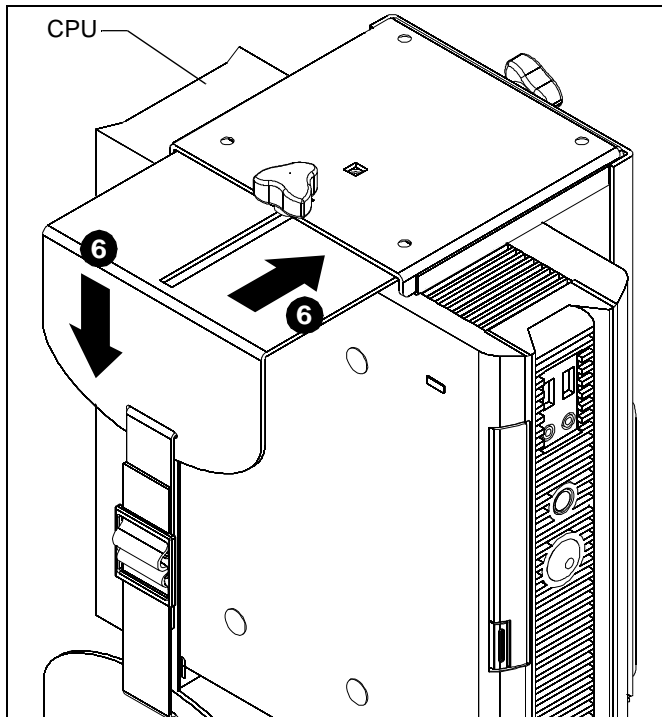

Figure 5
6. Set CPU within mount (D). (See Figure 5)
7. Use adjustment knobs to compress mount around CPU until CPU is tightly secured within mount (D). (See Figure 5)